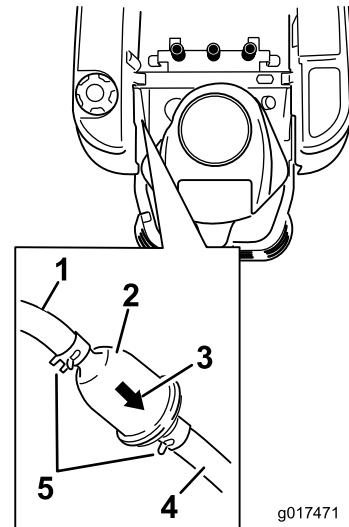

Figure 41
3. Locate the fuel filter on the side of the engine as shown in Figure 41.
4. Squeeze the ends of the hose clamps together and slide them away from the filter (Figure 41).
6. Install a new filter with the flow direction arrow coming from the fuel tank and pointing to the engine. Move the hose clamps close to the filter (Figure 41) to secure it in place.